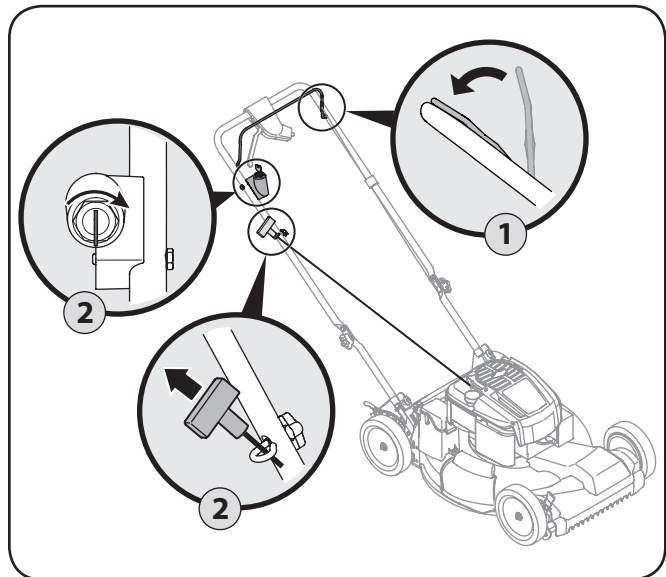

Figure 5-1
1. Standing behind the mower, squeeze the blade control against upper handle. See Figure 5-1.
2. **Recoil Start:** Holding these two handles together firmly, grasp recoil starter handle and pull rope out with a rapid, continuous, full arm stroke. See Figure 5-1. Keeping a firm grip on the starter handle, let the rope rewind slowly. Repeat until engine cranks. Let the rope rewind each time slowly.